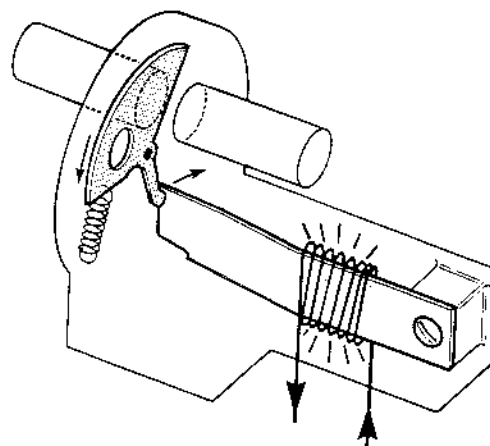

Fig.16B Extra air valve (hot)
The disc is turned by a bi-metal (B) which responds to both ambient temperature (i.e. the coolant temperature) or to the heating wire (H) coiled around it. This coil is connected to the fuel pump electrical circuit; therefore the coil starts to heat the bi-metal and begins to close the valve as soon as the engine cranks and runs (see fig.16B).